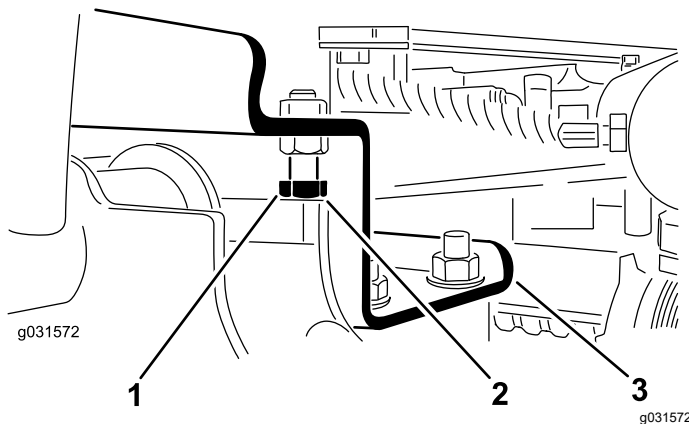

Figure 12
- A. Back off the stop bolts (Figure 12).
2. Ensure that the clearance between each lift arm and stop bolt is 0.13 to 1.02 mm (0.005 to 0.040 inch) as shown in Figure 12.